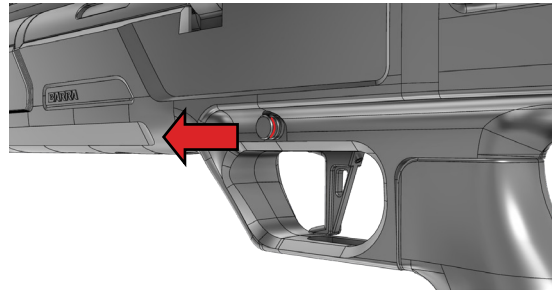

FIG 2 FIRE POSITION
- The FIRE position is when safety is extended to the left. See arrow direction in FIG 2. In this position, the gun is ready to shoot.